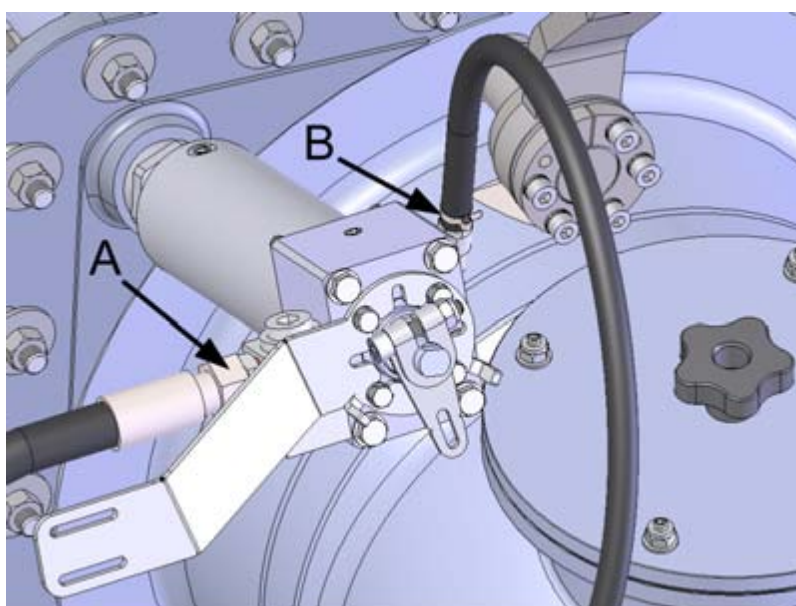

Figure 37. Removing the hoses
2. Remove the cylinder pressure hose (figure 37, point A) and return hose (figure 37, point B) from the valve and drain the oil into a container.